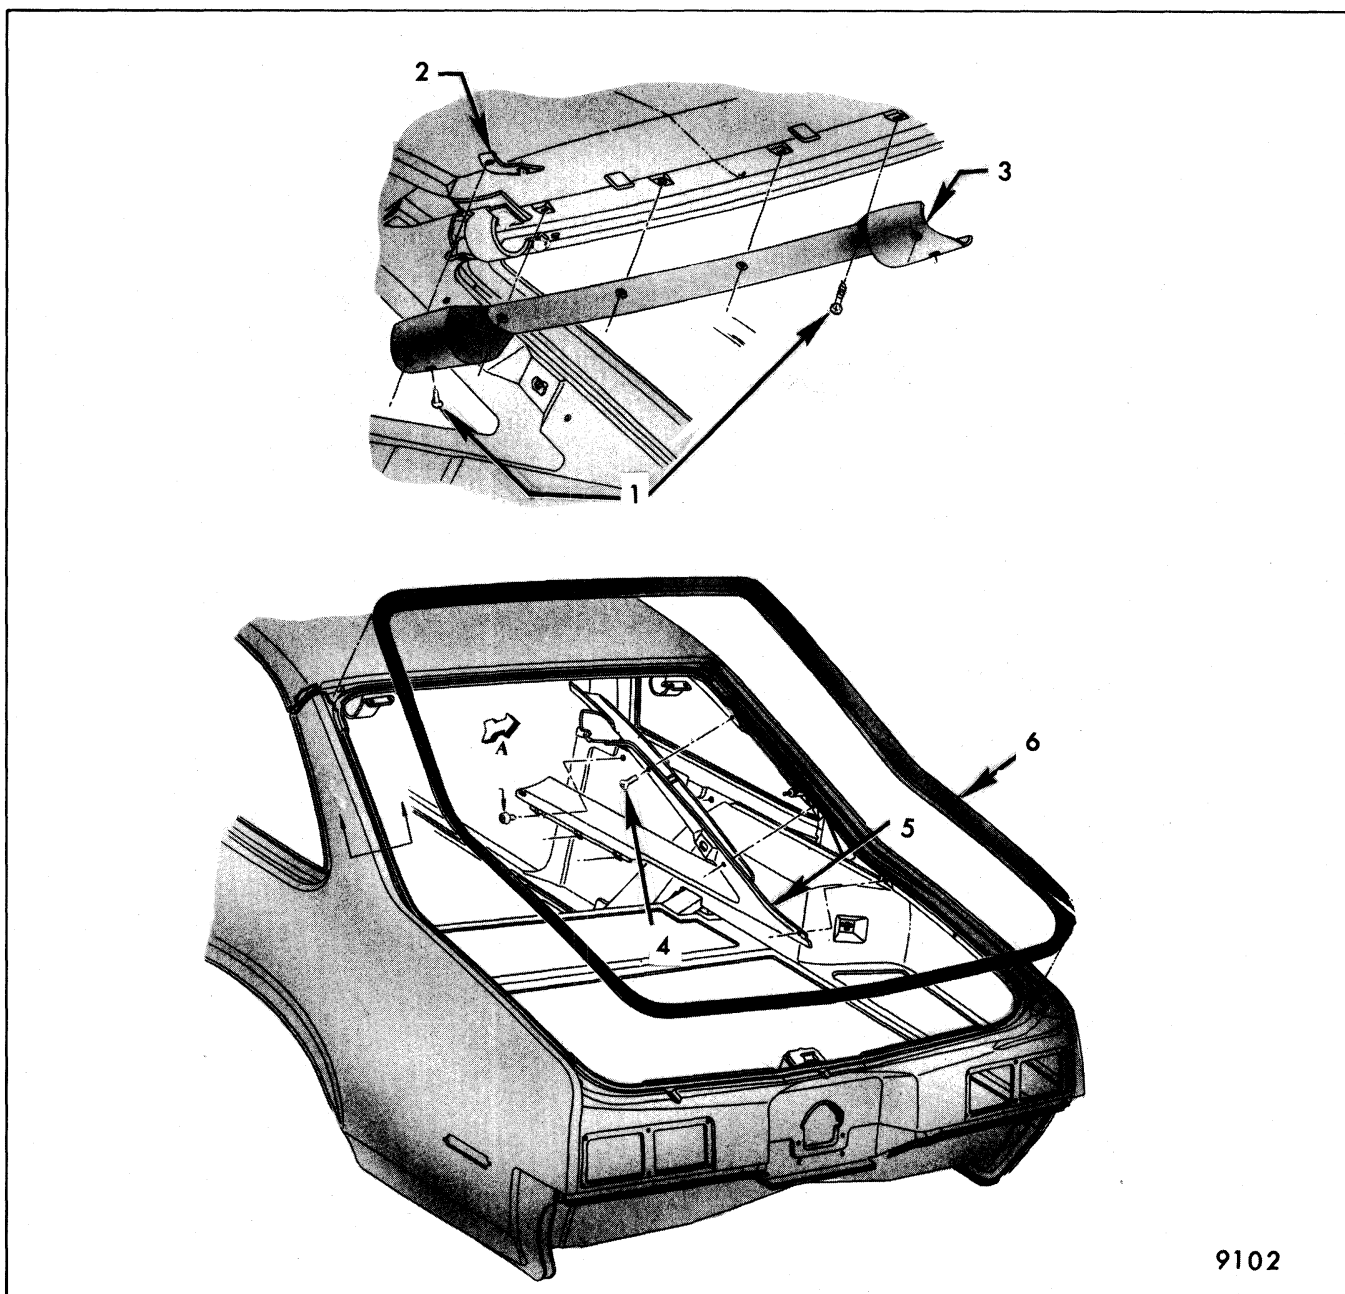

Fig. 7-9-Rear Compartment Trim and Weatherstrip Removal
1. Fore, aft and lateral adjustment of the lid assembly is controlled by the hinge strap to body attachments. To adjust the lid, remove the back window upper garnish molding, loosen the hinge to body attaching screws (Figs. 7-9 and 7-10) and shift lid to desired location and tighten screws.